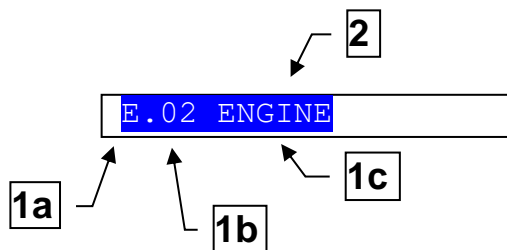

Fig. 4 - Top status bar
8.4.5 Top status bar (ref. to fig. 4)